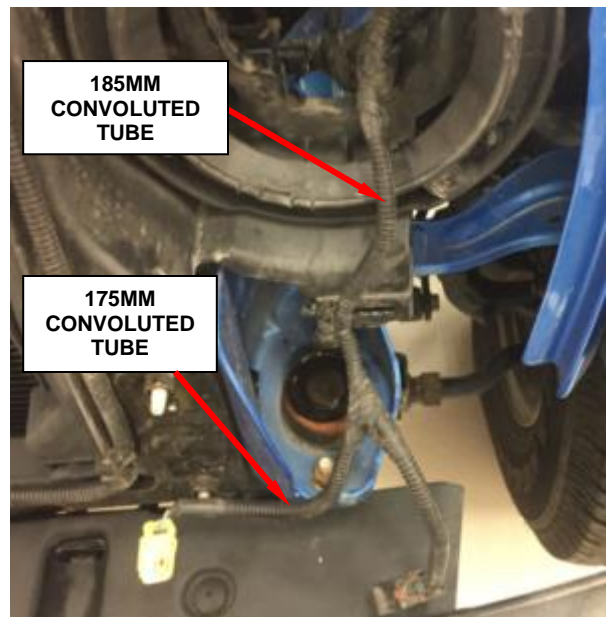

Figure 15 – Convoluted Tube
38. Remove and save the 175mm (7in) convoluted tube from the left front impact sensor wiring pigtail (Figure 15).
40. Remove and save the 185mm (7.25in) section of convoluted (Figure 15).